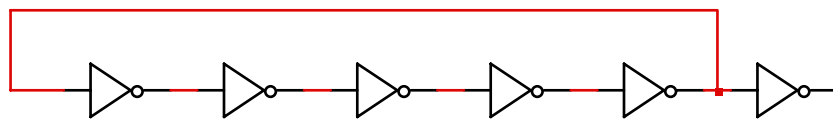

Figure 1 Ring Oscillator
1. Using a 74LS04 IC package, connect five inverter gates in a ring as shown in Figure 1.